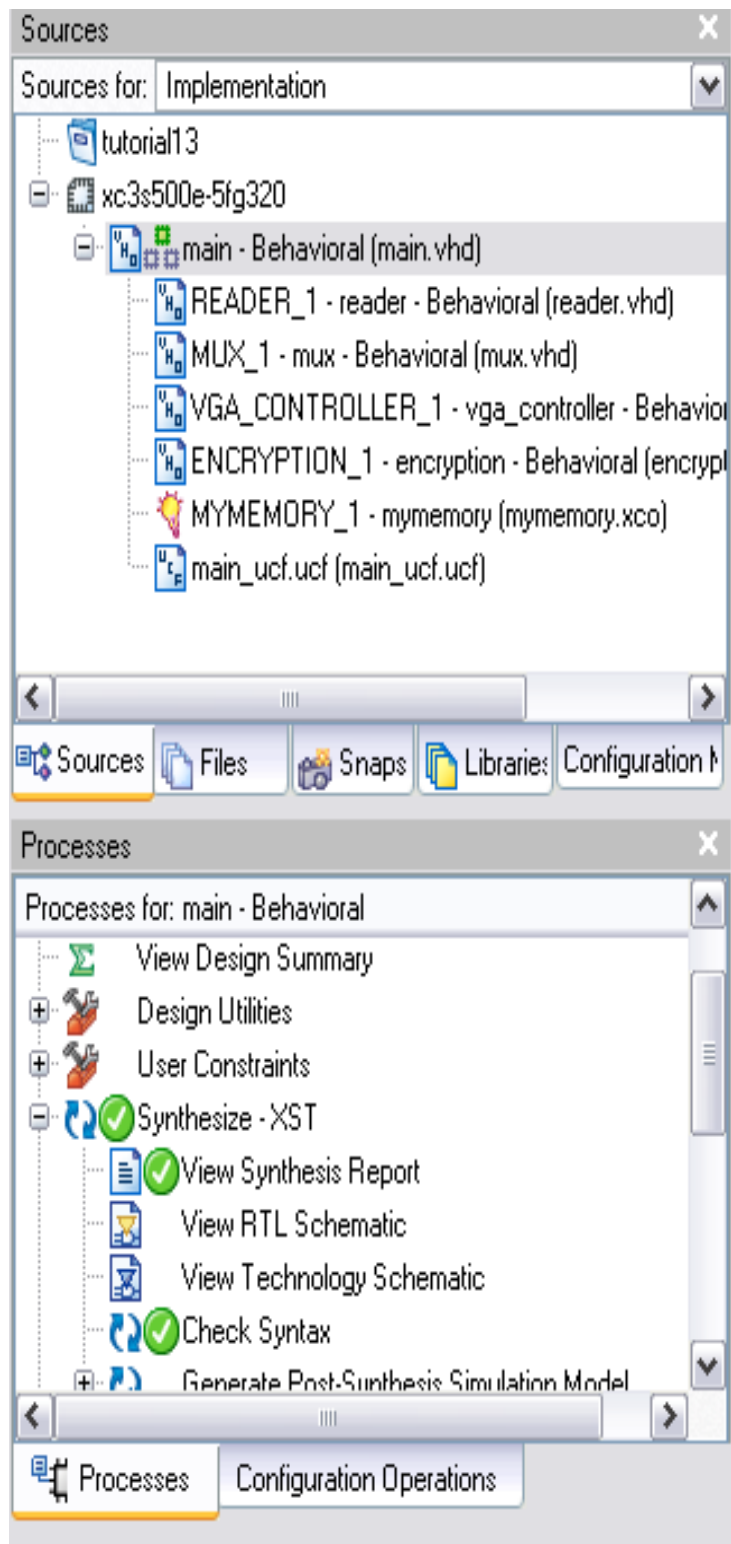

Figure 11: Generation of the Memory
f. Click on **Finish** to create the block. This process could take some minutes. You will know that Xilinx have finished with the block generation when you have the source added to your project (Figure 11).